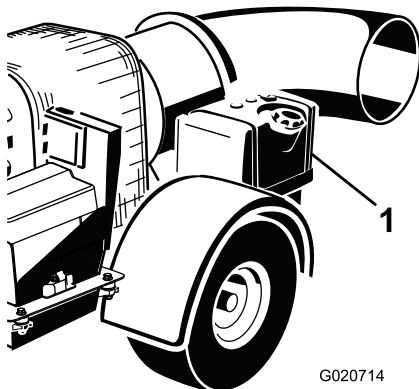

Figure 9
2. Clean the area around the fuel tank cap and remove the cap (Figure 9).